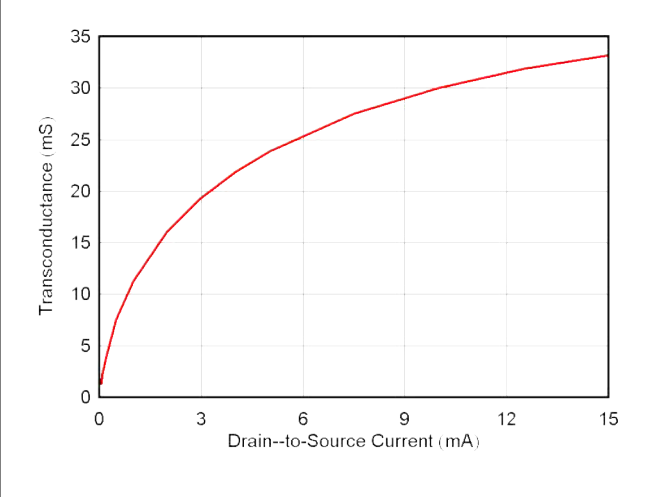
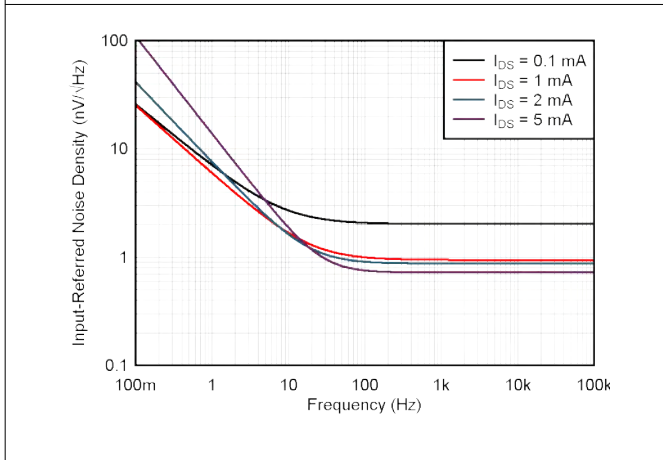
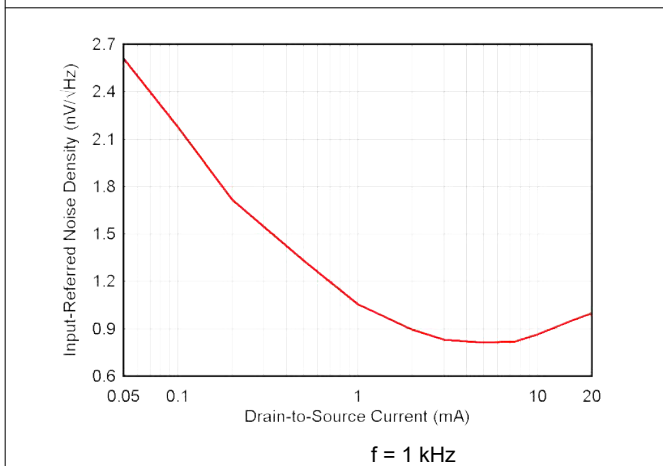
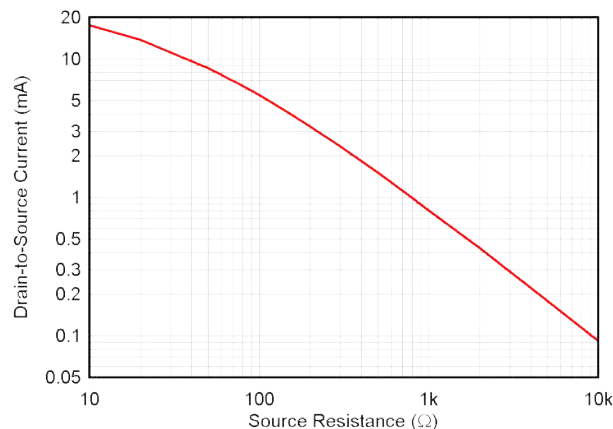

Figure 6-4. Common Source Transconductance vs Drain-to-Source Current
Figure 6-9. Input-Referred Noise Density vs Frequency
Figure 6-11. Input-Referred Noise Spectral Density vs Drain-to-Source Current
Figure 9-3. Drain-to-Source Current vs R_S , $V_{DS} = 5 \text{ V}$
Designs that feature operational amplifiers (op amps) as the primary gain stage are common, but these designs are not able to achieve the lowest possible noise as a result of the inherent challenges and tradeoffs required from a full operational amplifier design. Noise in JFET designs can be evaluated in two separate regions: low-frequency flicker noise and wideband thermal noise. Flicker, or $1/f$ noise, is extremely important for systems that require signal gain at frequencies less than 100 Hz. The JFE150 achieves extremely low $1/f$ noise in this range. Thermal noise is noise in the region greater than 1 kHz and depends on the gain, or g_m , of the circuit. The g_m is a function of the drain-to-source bias current; therefore, thermal noise is also a function of drain-to-source bias current. Figure 6-9 shows both $1/f$ and thermal noise with multiple bias conditions measured using the circuit shown in Figure 7-1.
Generally, higher gain results in improved noise performance. Gain increases as the bias current is increased as a result of increasing gm (see Figure 6-4). As a result, the input-referred noise decreases as bias current is increased (see Figure 6-9). Any JFET design must make a tradeoff between current consumption and noise performance. The JFE150, however, delivers significantly lower noise performance than most operational amplifiers at the same current consumption. The bias current (I_{DS}) is set by the value of the source resistor, R_S , and the threshold voltage, V_T , of the JFE150. Figure 9-3 is a graph showing nominal I_{DS} vs R_S .
R _S	Source resistor. Used to set bias of JFET; see Figure 9-3. Resistor thermal noise directly impacts noise performance.
- The JFE150 bias current is set by selecting the desired bias current and noise tradeoff (see Figure 6-11). The input-referred noise is dominated by the JFE150 bias current and gain. To set the bias current point, adjust the source resistance according to Figure 9-3.